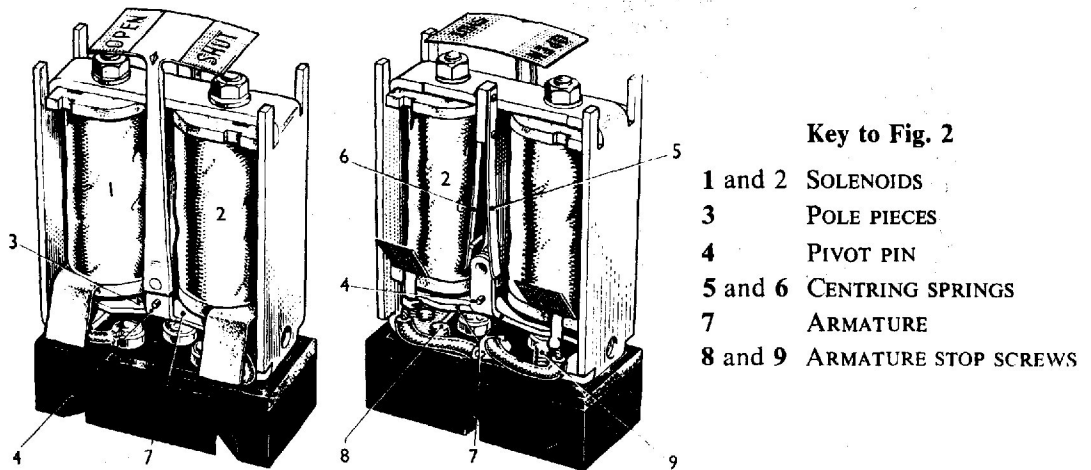

Fig. 2. Construction of Indicator
3. The construction of the indicator can be seen clearly from the internal views in *fig. 2*